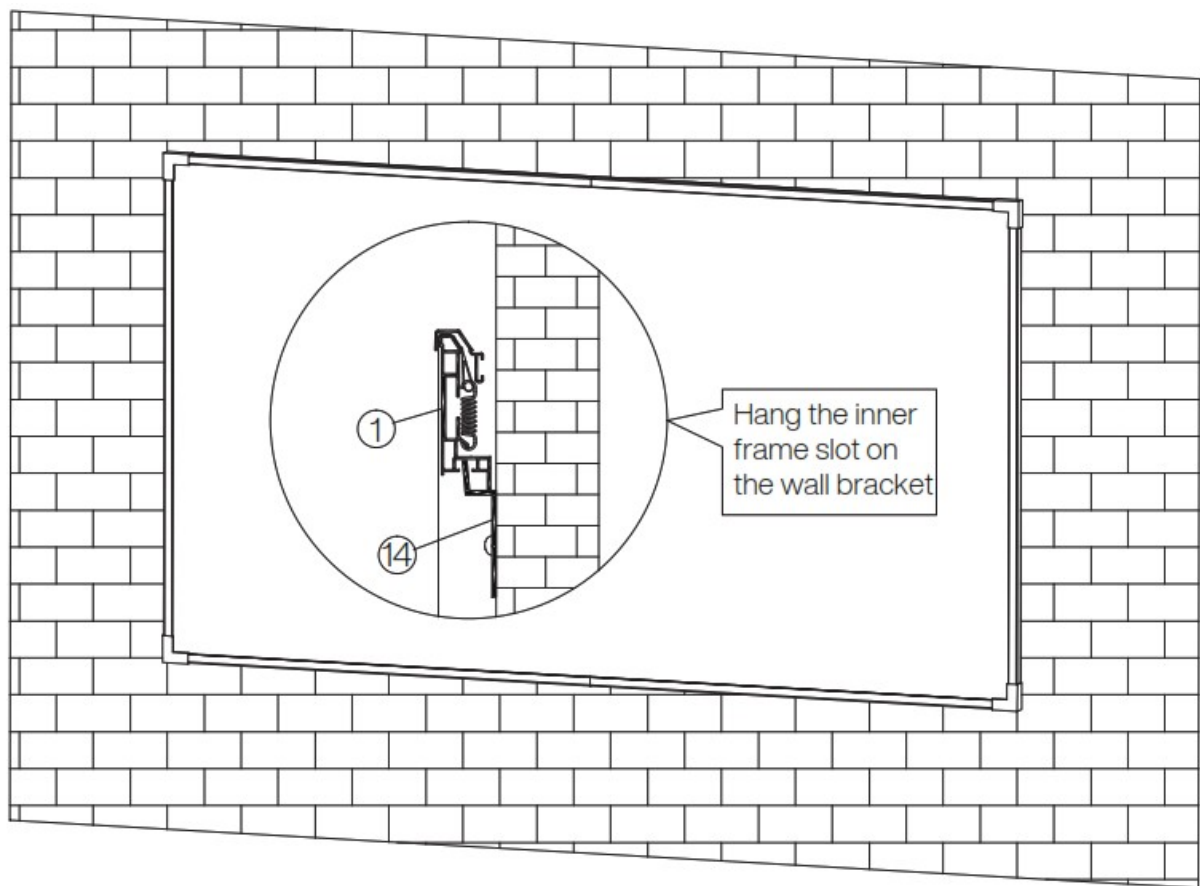

Figure 14
3. Hang the assembled screen on the wall (operated by two persons) (Figure 14)